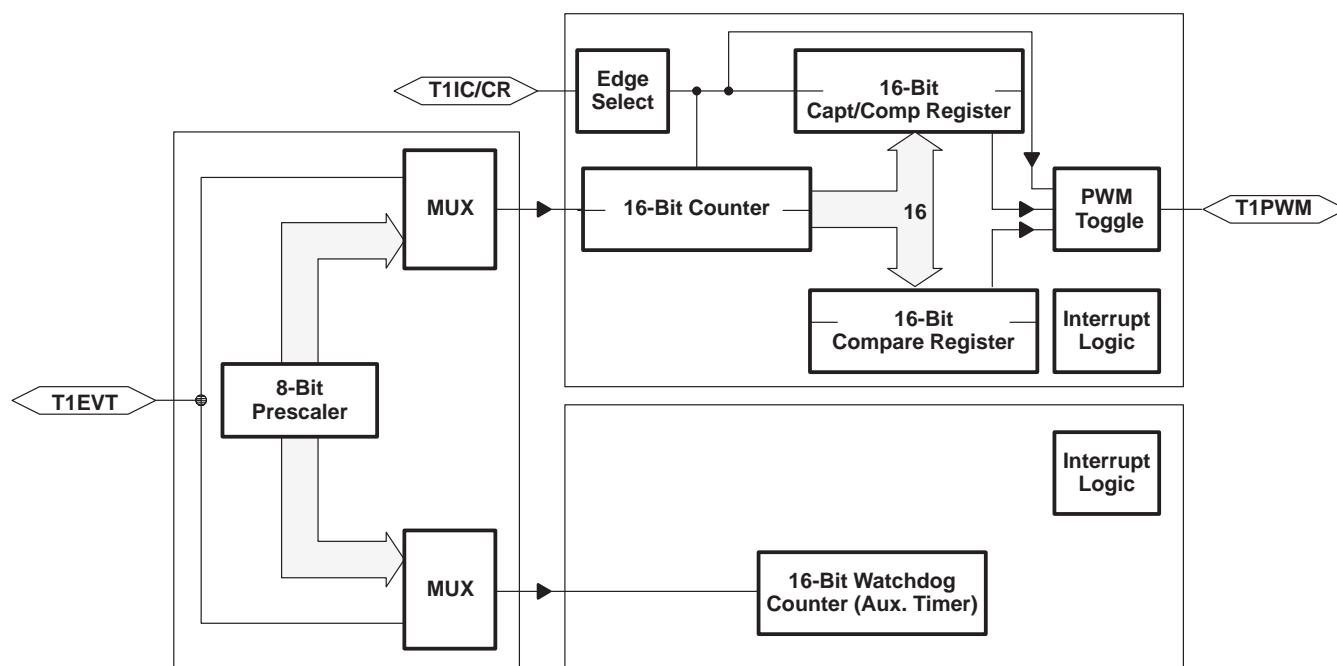

Figure 5. Timer 1 Block Diagram
The programmable timer module of the TMS370Cx2x provides the enhanced timer resources required to perform real-time system control. The Timer 1 module contains the general-purpose timer T1 and the watchdog (WD) timer. The two independent 16-bit timers (T1 and WD) allow program selection of input clock sources (real-time, external event, or pulse-accumulate) with multiple 16-bit registers (input-capture and compare) for special timer function control. The timer 1 module includes three external device pins that can be used for multiple counter functions (operation-mode dependent), or used as general-purpose I/O pins. The T1 module is shown in Figure 5.